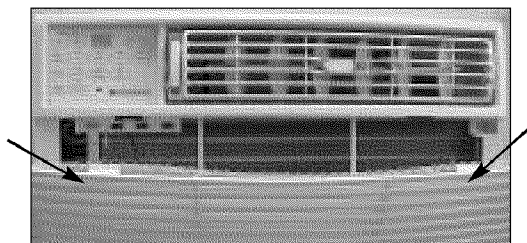

FIG. 2
- As you install the front frame to the unit be sure the vent handle is positioned through the front in the proper location (Fig. 2).
- Install front retaining screw(s) behind the filter and panel (Fig. 2 & 3).